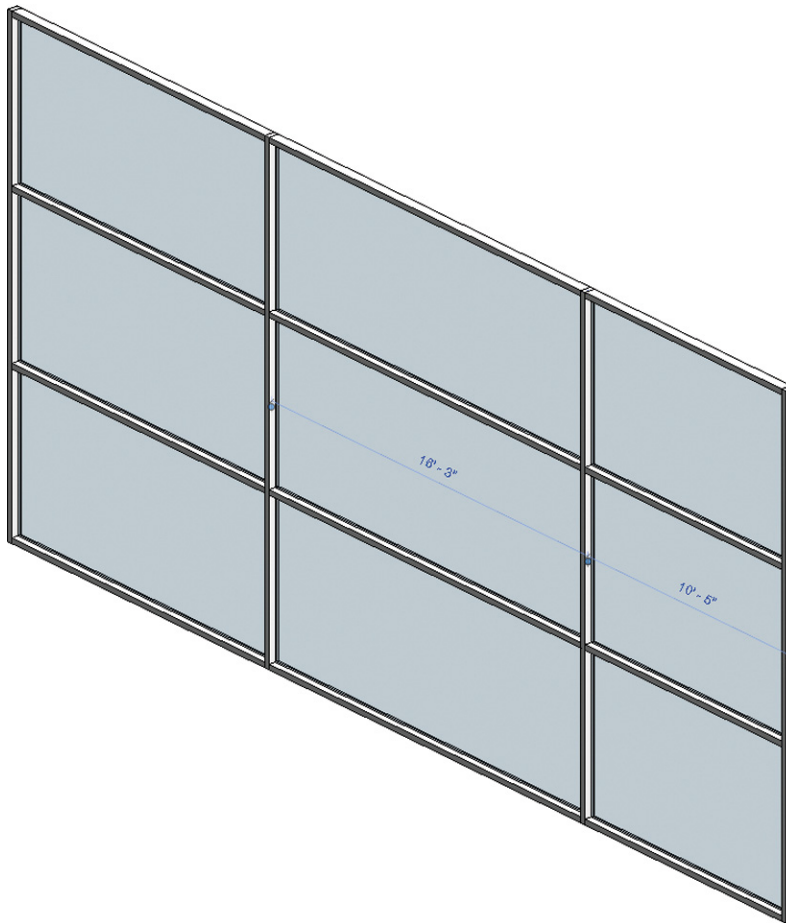

FIGURE 2.23 Moving the grid line
4. Selecting the grid line and temporary dimensions allows you to enter exact values (or even click and drag to move the grid), as shown in Figure 2.23.